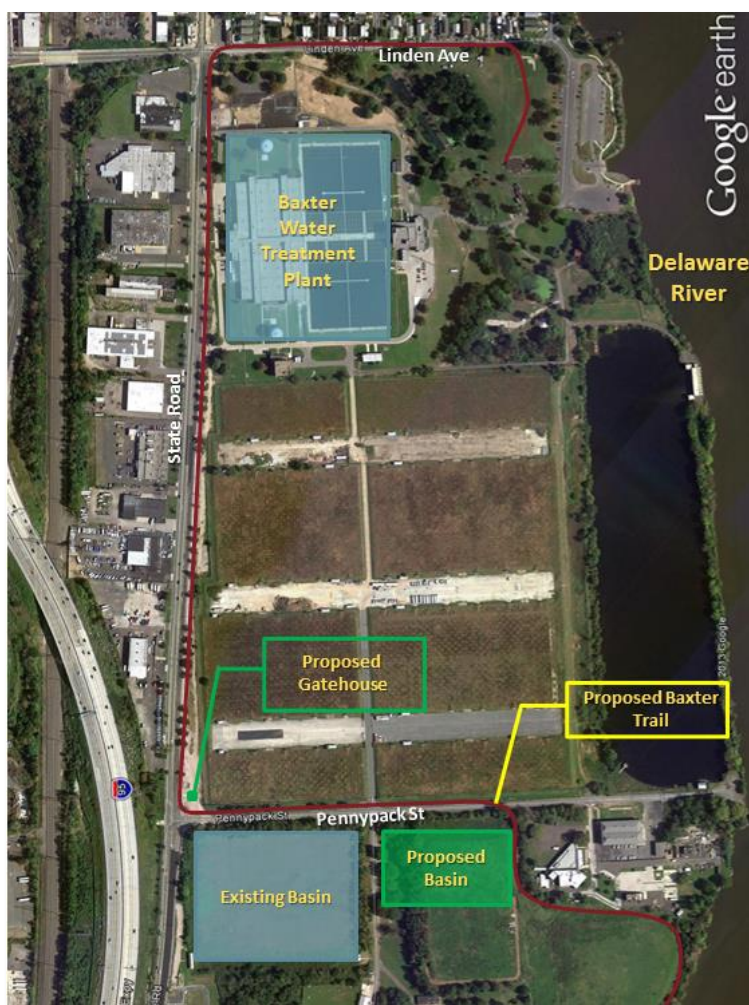

Figure V-3 – Aerial View for Proposed Plant Project with Comments
3. Utilize the comment tools in Adobe Acrobat (or similar program) to highlight and label important areas of construction, proposed and existing components, roads that may be impacted, and any landmarks (Figure V-3).